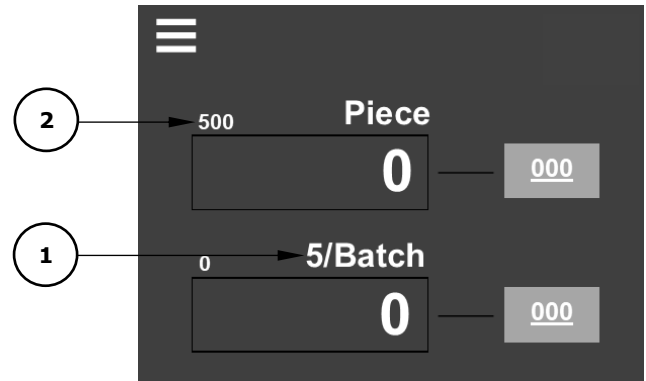

Figure 8.4.6
- The production screen displays both the calculated batch size (1) and the automatically calculated quantity (2). See Figure 8.4.6.